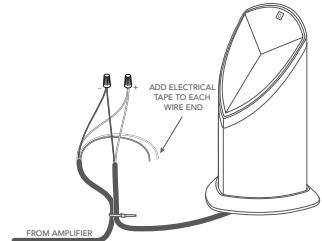

Figure 5
2. Starting at the speaker furthest from the amplifier, strip 3/4" of insulation on the cut end of the burial wires for the appropriate amp channel according to the tables below, then strip insulation from the ends of the corresponding speaker's pigtail. Wrap any unused wires in electrical tape to protect them from moisture and short-circuiting (see Figure 5).
3. Connect the burial cable to the speaker pigtail using a wire tie (see Figure 5).